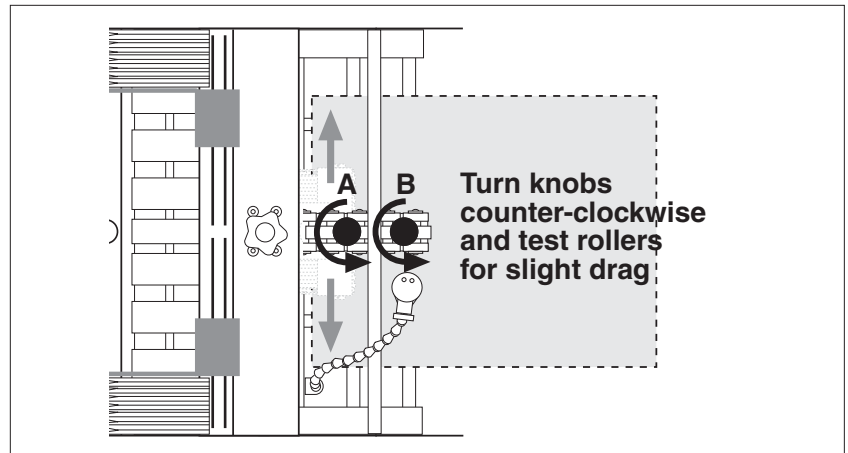

Figure 2-14. Turning Knobs Counterclockwise to Insert Product
2. Turn knobs A and B counterclockwise (Figure 2-14) to lower the hold-down assembly so that a slight drag exists between the product and the hold-down. Verify slight drag by sliding product side-to-side.